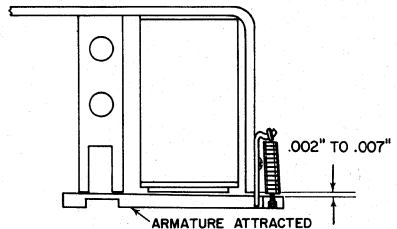

Figure 4
1. With the armatures of the punch magnet assembly in the attracted position, a clearance of from .002" to .007" should be obtained between the heel piece and the armature (Figure 4). Loosen the screws holding the armature spring & pivot plate and move the plate up or down as required. Be sure that the plate gives the same clearance at both sides of the magnet assembly and adjust both armature spring & pivot plates.